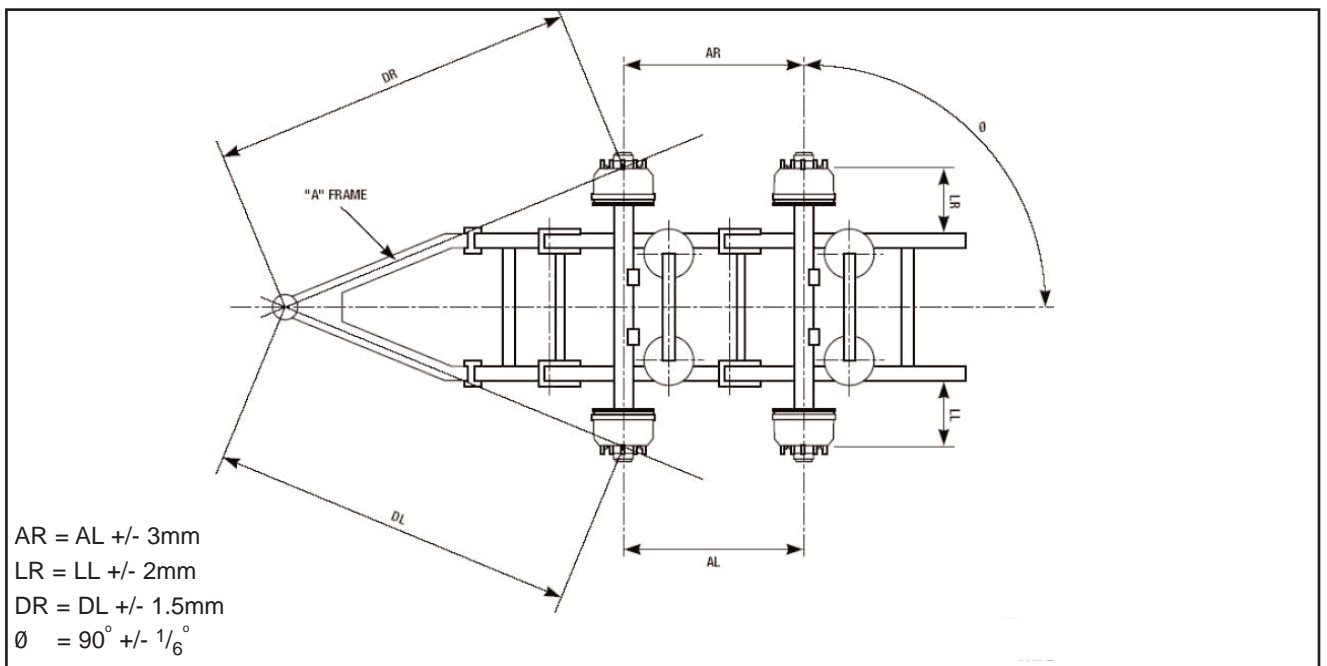

Fig 6.2
2. Measure from the king pin to each end of the first axle (measurement **DR** and **DL**. To obtain correct alignment, settings (Figs 6.2 & 6.3).
**NOTE:** To obtain correct alignment, the dimensions **DR** and **DL** must be within +/- 3mm at both ends of the axle (Figs 6.2 & 6.3)
2. To obtain correct alignment, the dimensions must be within +/- 3mm at both ends of the axle. (Figs 6.2 and 6.3). If Adjustment is required: Proceed to step 3 below. If Adjustment is not required: Proceed to step 4.
**NOTE:** Align the axle so that measurement **AR** equals measurement **AL** within +/- 3 mm. (Figs 6.2 and 6.3)
**NOTE:** \* Do not torque the Pivot Nut or Shock Absorber nuts to final torque until the axle is aligned and the trailer is at the ride height with the wheels on. Refer to **Axle Alignment - Section 6 (Figs 6.2 & 6.3)** and **Ride Height Adjustment - Section 3**